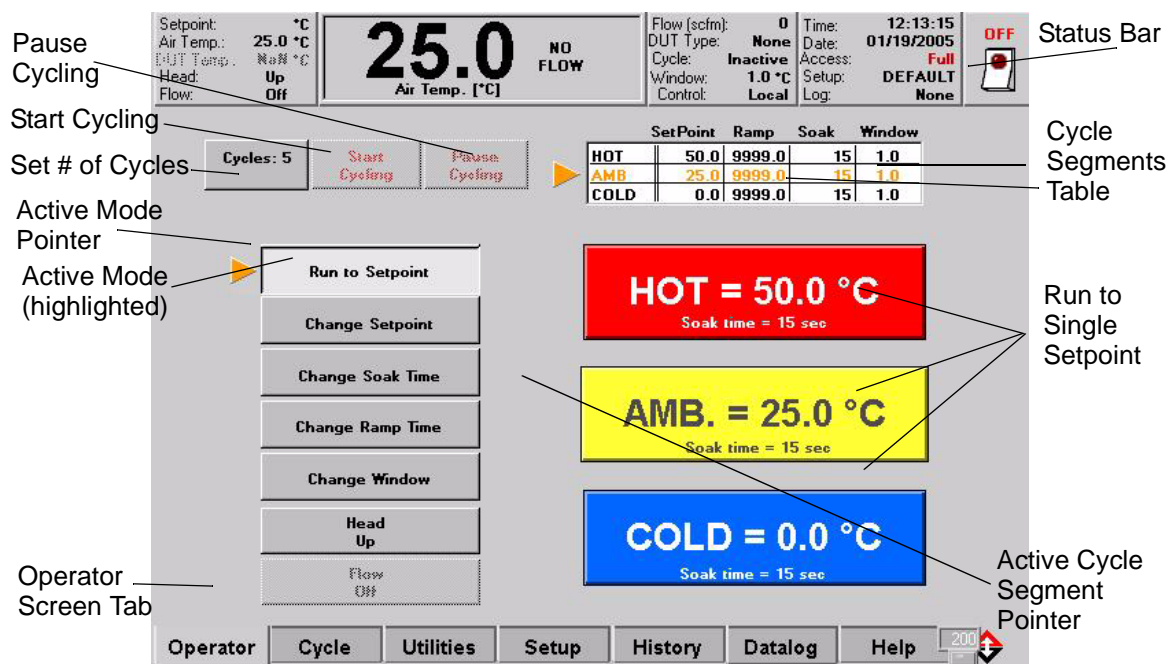

Figure 5-1. Operator Screen
7. If the *Operator Screen* is not displayed, then press the "Operator" tab at the screen bottom to display it (see Figure 5-1 "Operator Screen" on page 22).
1. Press the main ON/Off switch OR press the "Off" button on the upper right corner of the Status Bar (see Figure 5-1. on page 22).
ACCESS JUMBO SCREEN (Air mode, or DUT mode): Press the Status Bar on any screen (see Figure 5-1) to toggle to the Jumbo Temperature Screen For a detailed explanation of Status Bar displayed values, see TP04300 Interface & Applications Manual
ACCESS	Press "Operator" Screen tab (see Figure 5-1)
(Active Mode)	The selected, Active Mode, is highlighted (see Figure 5-1)
START/STOP CYCLING	(When this mode is selected, it is highlighted: see Figure 5-1)
RUN TO SETPOINT	(When this mode is selected, it is highlighted: see Figure 5-1) ("Active Cycle Segment Pointer" moves during cycling: see Figure 5-1)
STATUS BAR	System supplied values displayed at screen's top (see Figure 5-1. on page 22)